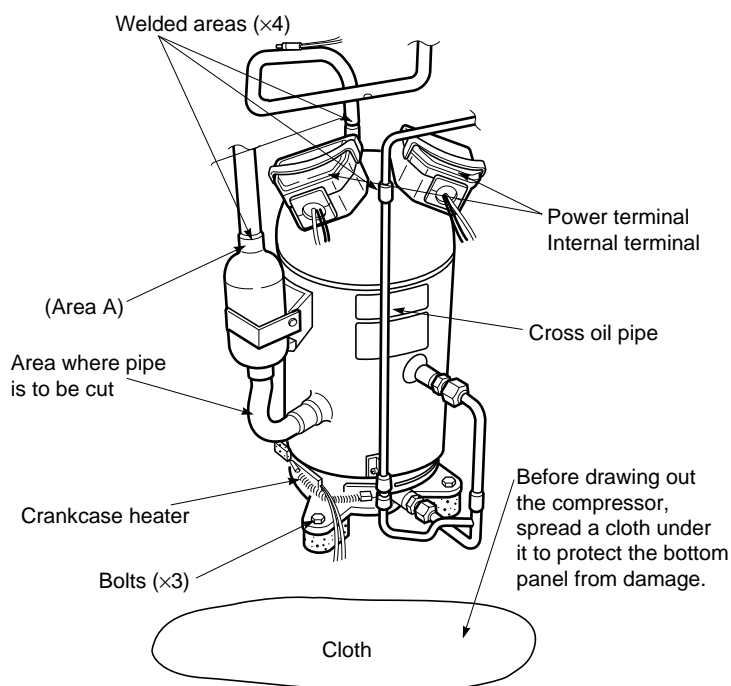

Fig. 2
### (2) Replacing the constant-speed AC compressor (Ref. Fig. 2)
- \* If the power cable interferes and makes it impossible to replace the AC compressor, refer to "(1) Replacing the PC compressor" on the previous page.